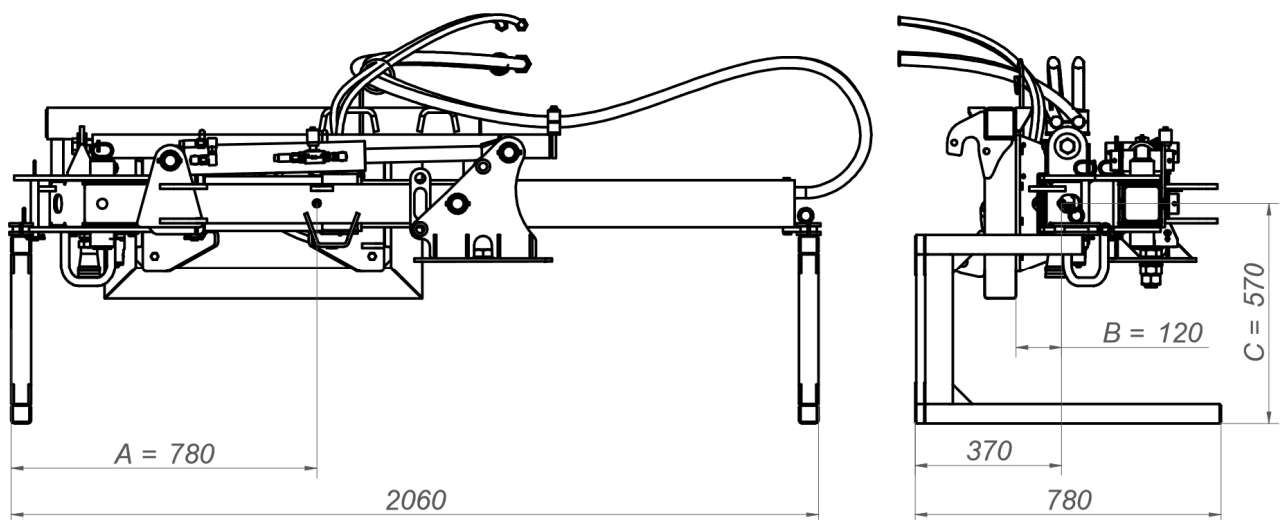

Fig. 4. Location of center of gravity
- ❑ When mounting slings, chains, handles etc., always set the machine's center of gravity properly (**Fig. 4**),